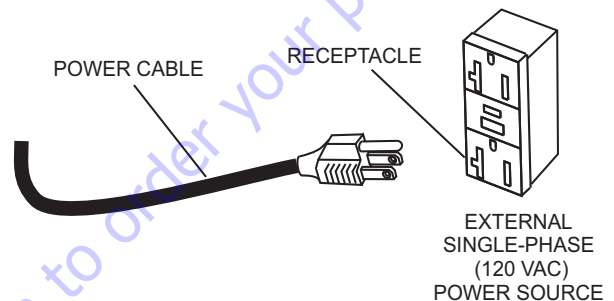

Figure 31. 120 VAC Receptacle
3. If using a power source (Figure 31) other than a portable generator, plug the AC power cord from the lamp into a 120 VAC, 60 Hz receptacle that is protected by a at least a 15 amp circuit breaker.